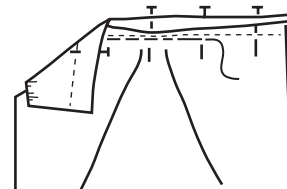

Figure 12
6. With sleeve on top, stitch the binding to placket, sewing just inside reinforcement stitching (Figure 12).